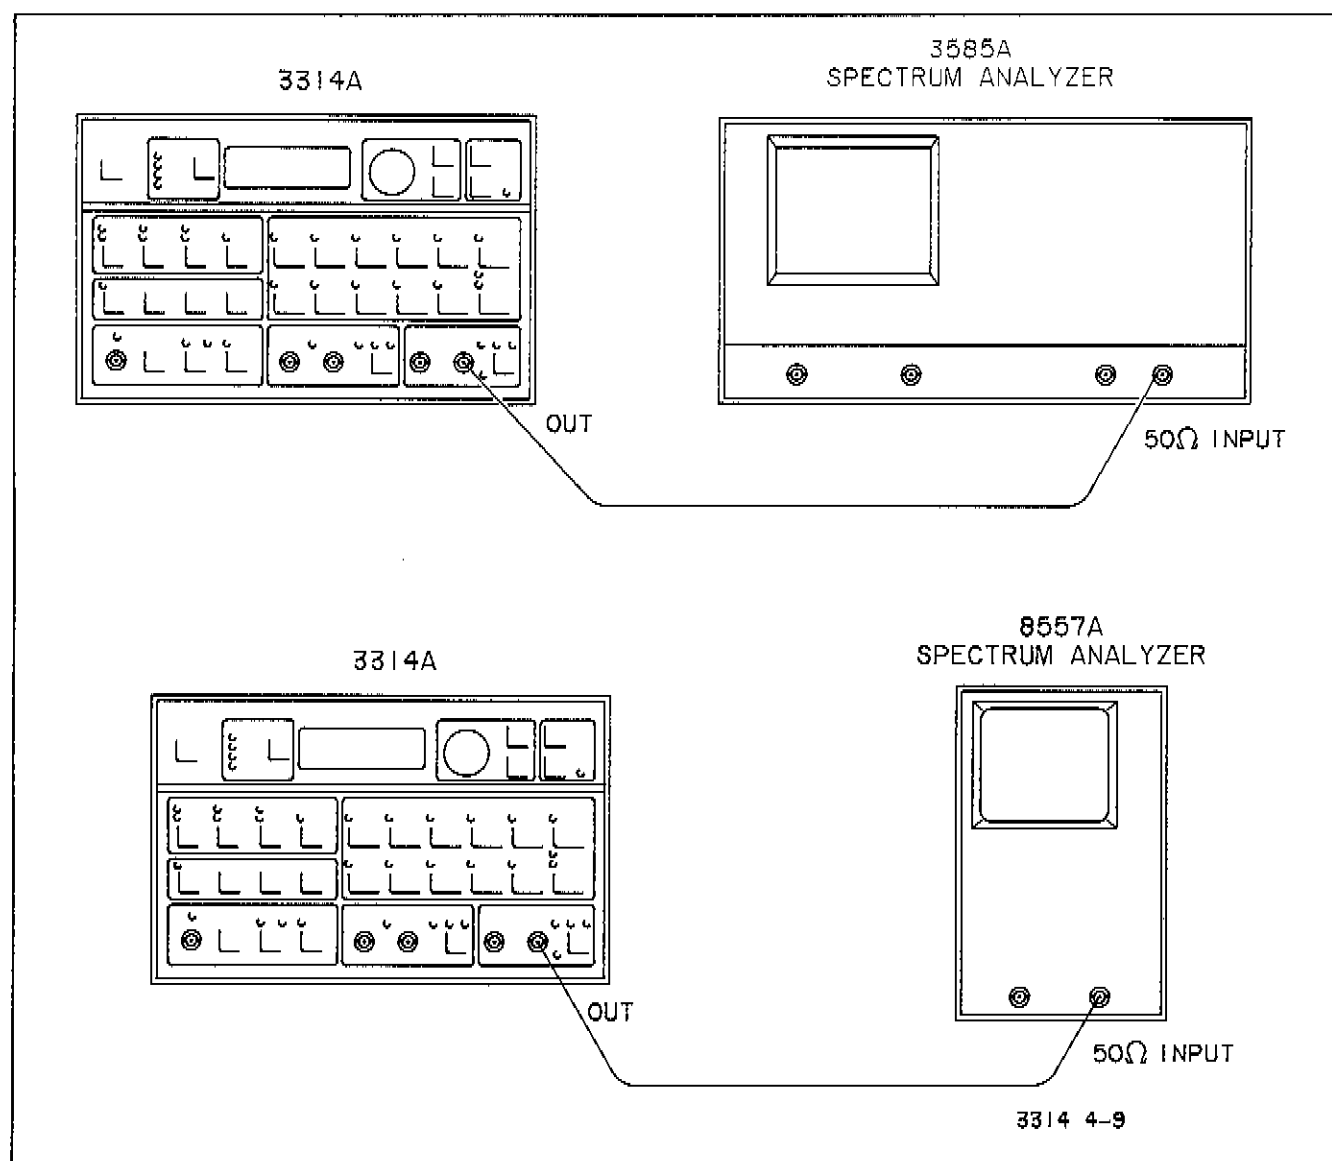

Figure 4-9. Sine Wave Harmonics
C. Connect the 3314A to the 3585A as shown in Figure 4-9.
K. To measure the harmonics of the frequencies listed in Table 4-7, connect the 3314A to the 8557A Spectrum Analyzer as shown in Figure 4-9.